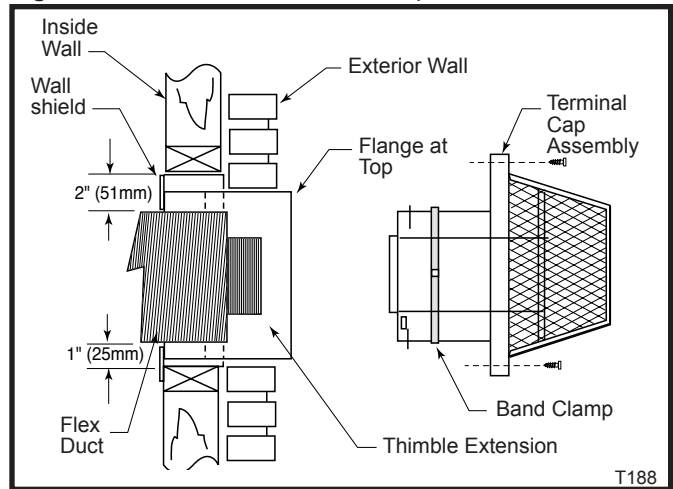

Fig. 21 Secure vent cap terminal to exterior wall.
5. Secure vent cap terminal to exterior wall with screw type fasteners as needed. (Fig. 21)